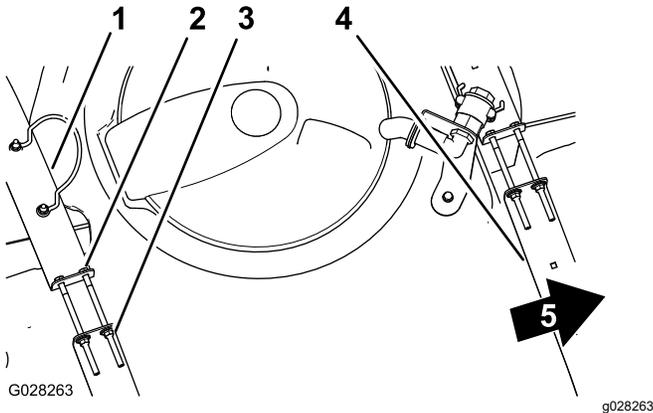

Figure 21
- Check to see if there is any movement between the tank straps and the tank (Figure 21).
- If the tank straps fit loose to the tank, tighten the flanged locknuts and bolts at the top of straps until the straps are flush with the surface of the tank (Figure 21).